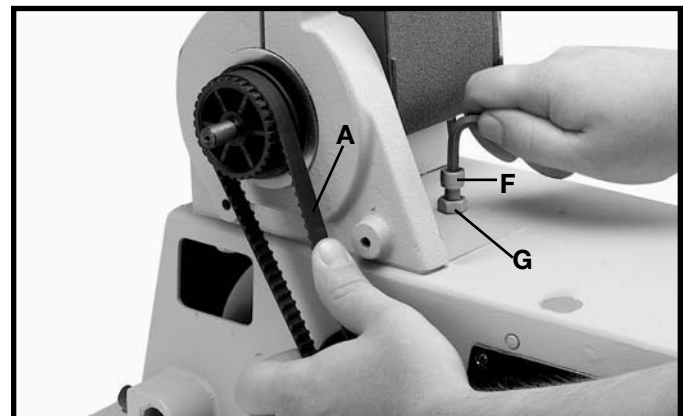

Fig. 4
2. Check to see if the belt (A) Fig. 4, is tensioned properly by applying light pressure to the belt at the center span of the pulleys as shown. **NOTE: THERE SHOULD BE APPROXIMATELY 1/4 INCH DEFLECTION IN THE BELT (A) AT THE CENTER SPAN OF THE PULLEYS USING LIGHT FINGER PRESSURE. THE BELT DOES NOT REQUIRE EXCESSIVE TENSION TO FUNCTION PROPERLY.**
3. If an adjustment is necessary, loosen locknut (G) Fig. 4, and tighten or loosen adjusting screw (F), with 6mm hex wrench, until correct tension is obtained. Then tighten locknut (G).